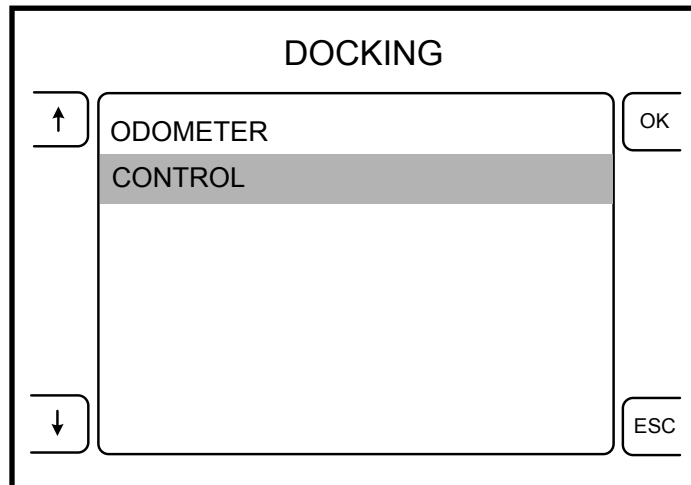

Figure 5: Select the DOCKING Option
5. Next, push the button next to the arrow icon (on the left side) to highlight the CONTROL option. Then press the button next to the OK icon to select the control menu. (see figure 5)